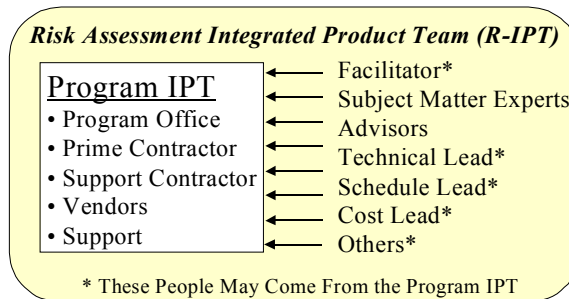

FIGURE 2. RISK IPT
To start the Integrated Risk Assessment (IRA) a risk assessment team is formed. This ‘risk’ team consists of the program Integrated Product Team or IPT and some or all of the following: subject matter experts, a lead for the Technical Assessment (TA), Schedule Assessment (SA) and Cost Estimate (CE), advisors and a facilitator. This collection of evaluators forms the Risk IPT (R-IPT), see Figure 2. Within this team will be people who will develop the new schedule and the new cost estimate. However, the program IPT is responsible for managing the program; and is ultimately responsible for the IRA.